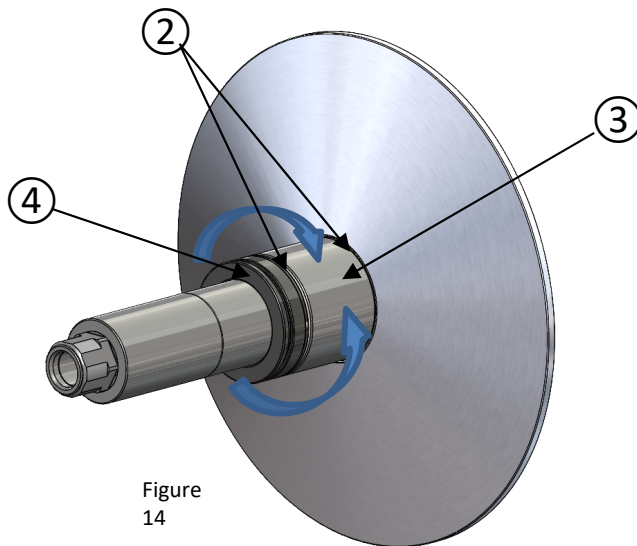

Figure 14
3. Check that the freewheel ③ turns freely on the fixed sheave shaft ①
4. (figure 14).